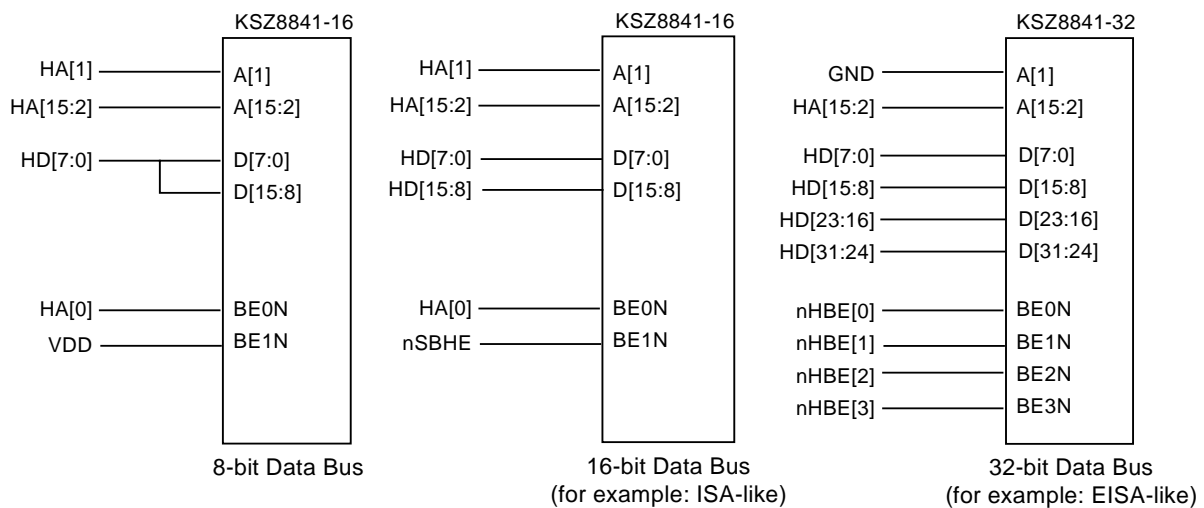

Figure 10. KSZ8841M 8-Bit, 16-Bit, and 32-Bit Data Bus Connections
Figure 10 shows the connection for different data bus sizes.
2. Internal byte swapping is not implemented and word swapping is supported internally. Refer to Figure 10 for the appropriate 8-bit, 16-bit, and 32-bit data bus connection.